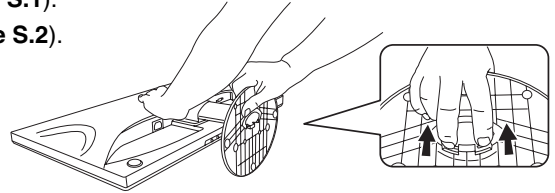

Figure S.1
3. Remove stand base. Move up tabs and take off the stand base (Figure S.1).
3. Move up tabs and take off the stand base (Figure S.1). The monitor can now be mounted using an alternate method. Reverse process to reattach stand.